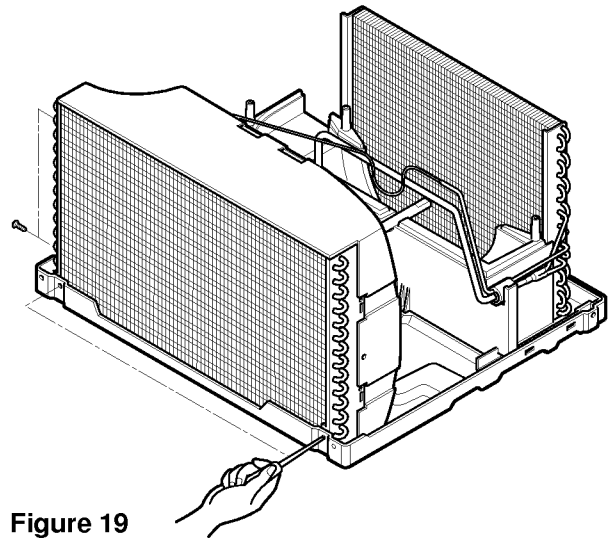

Figure 19
6. Re-install the components by referring to notes. (See figure 19)